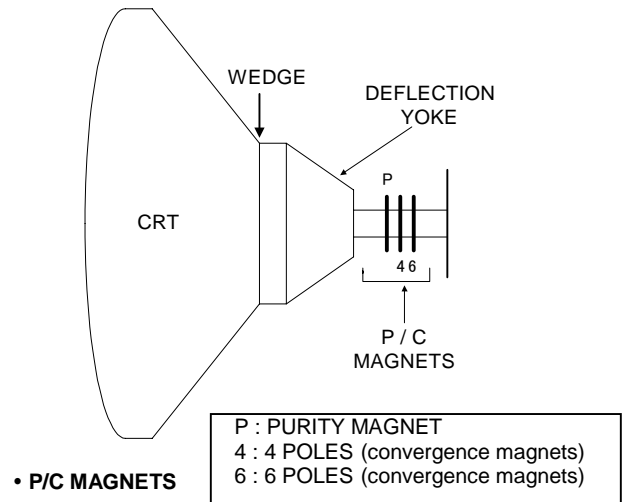

Fig.1
2. Using 4-pole convergence magnets, overlap the red and blue lines in the center of the screen (Fig.1) and turn them to magenta (red/blue).